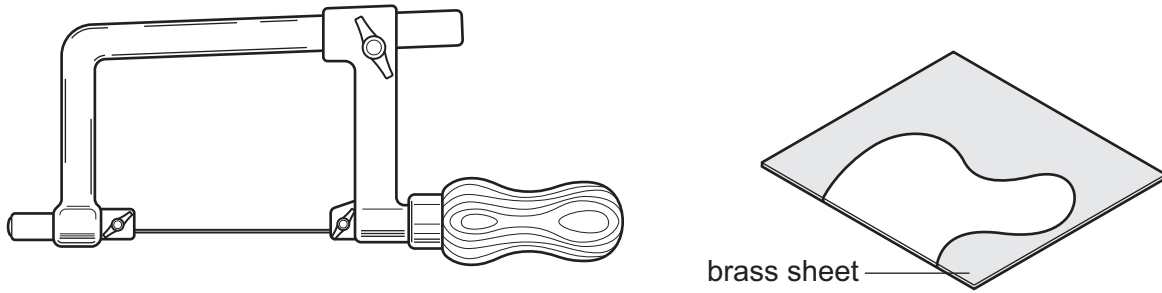

Fig. 10.1
- 10 Fig. 10.1 shows a piercing saw that will be used to cut out the curved shape in a piece of 1 mm thick brass sheet.